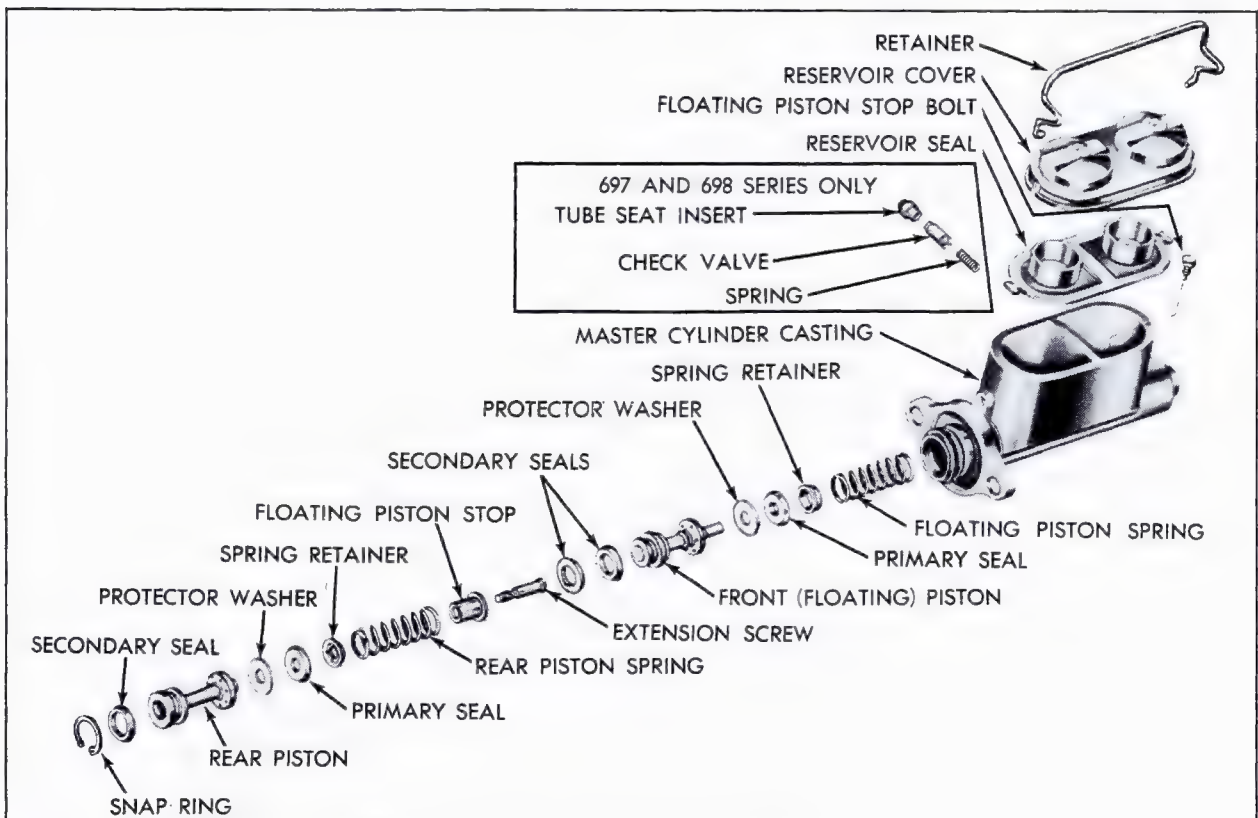

Fig. 5-28 Master Cylinder Disassembled
24. Delco Moraine Master Cylinder Disassembly, Cleaning, Inspection and Assembly, (Fig. 5-28)
6. Remove lock ring from open end of master cylinder and remove rear piston assembly, Fig. 5-28.
16. From cavity beneath tube insert, remove rubber check valve and check valve spring, Fig. 5-28.
3. Install new secondary seal in groove at end of floating piston, back-to-back with secondary seal in center groove, Fig. 5-28, so that lip faces toward that end.